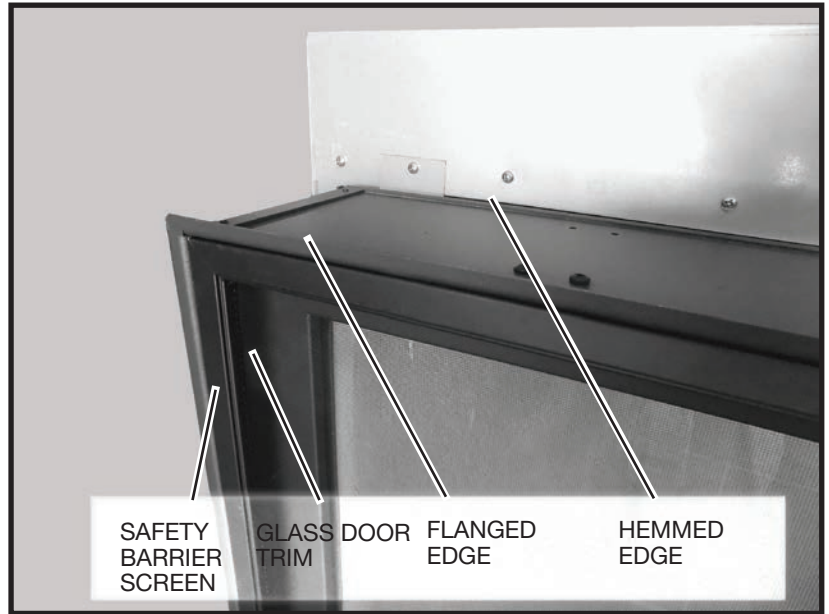

Figure 20: Lintel and trim.
1. The adjustable lintel assembly has two orientations for desired finishing. The flanged edge and the hemmed edge (Figure 20). The lintel comes factory installed with the flange edge out . If the desired edge is different from the factory setting, use the following steps to change it.